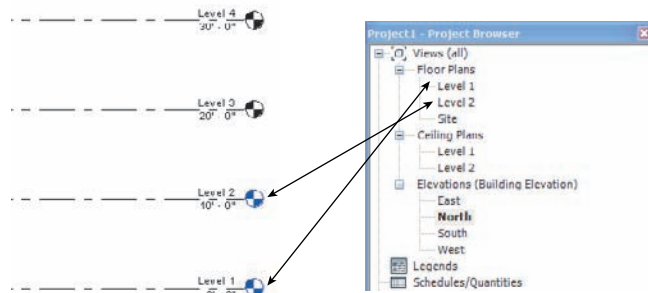

Figure 2.30
3. Zoom into the level name at the right of each level line (Figure 2.30).